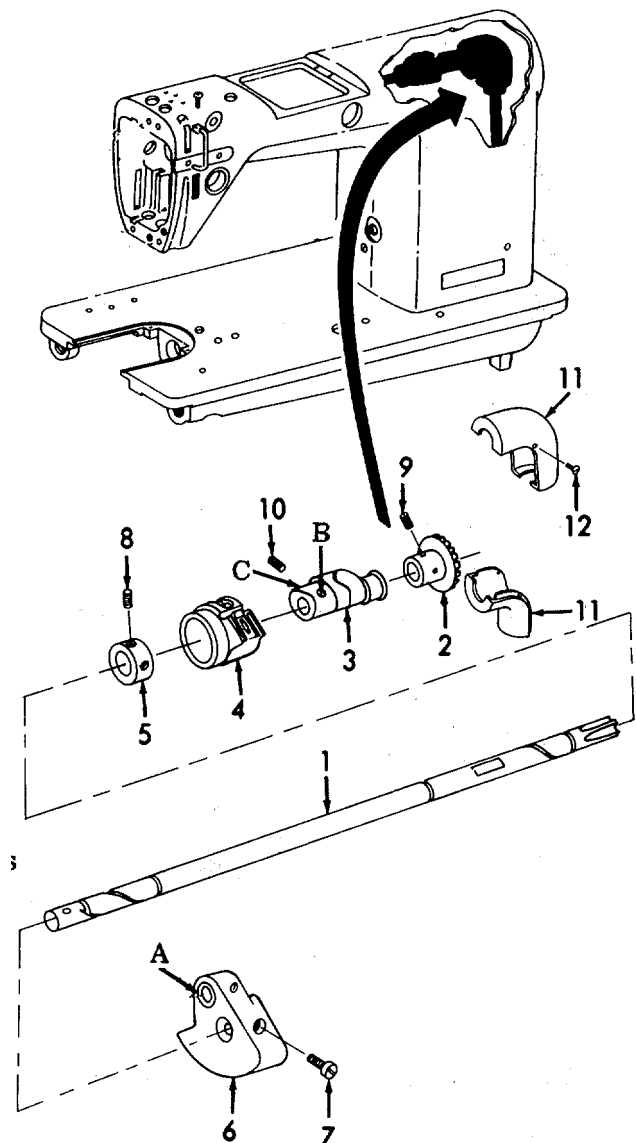

Figure 6-72. Upper Shaft, Installation.
e. *Installation (Refer to Figures 6-72 and 6-73).*
- (1) Refer to Figure 6-72. While installing the shaft (1), install the following but do not tighten the setscrews: pinion (2), eccentric (3), sleeve (4), and collar (5).